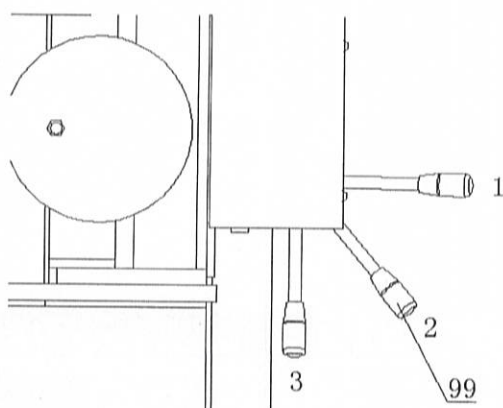

Fig 8
- 15.1.1 Turn the handle lever of selector valve to position 2. (refer to fig. 8)
15.1.3 Turn the handle lever (99) of socket valve to position 3 (refer to fig 8), and check if the ram is working properly; If the ram working properly, air purge is finished, if not, repeat the process 15.1.1~15.1.2
15.2.1 Turn the handle lever of selector valve to position 2. (refer to fig. 8)
15.2.3 Turn the handle lever (99) of socket valve to position 3 (refer to fig 8), and check if the ram is working properly; If the ram is working properly, air purge is finished, if not, repeat the process 15.1.1~15.1.2
15.3.2 Turn the handle lever (99) of selector valve to position 2 (fig.8), then depress the air foot valve (P54), keeping the air motor working no less than two minutes.
15.3.3 Turn the handle lever (99) to position 3 (fig 8), then depress the air foot valve (54), keeping the air motor working and check if the ram is working properly. If the ram is working properly, air purge is finished, if not, repeat the process 15.3.1~15.3.2
16.1.1.2 Turn the handle lever (99) of socket valve to position 3. (fig 8)
16.2.1.2 Turn the handle lever (99) of socket valve to position 1. (fig 8)